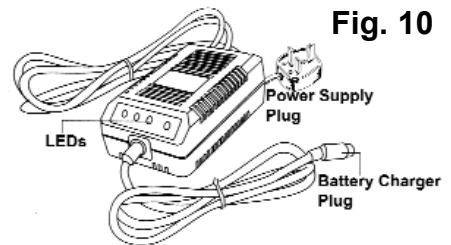

Fig. 10
6.4.1 A battery charger is provided as an accessory with the Pallet Truck. Refer to Fig. 10.